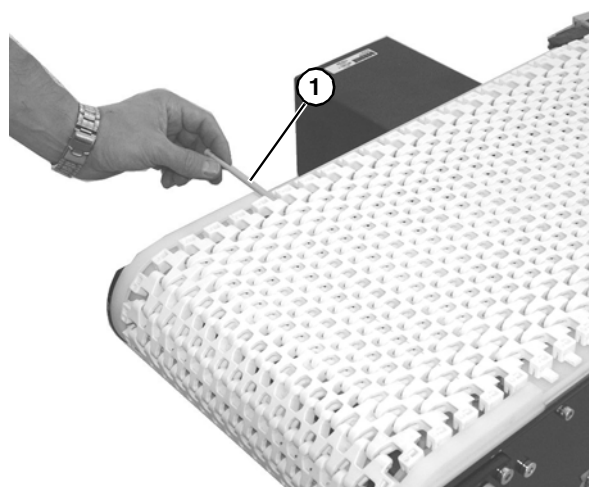

Figure 31
10. Insert the belt rod (**Figure 31, item 1**).